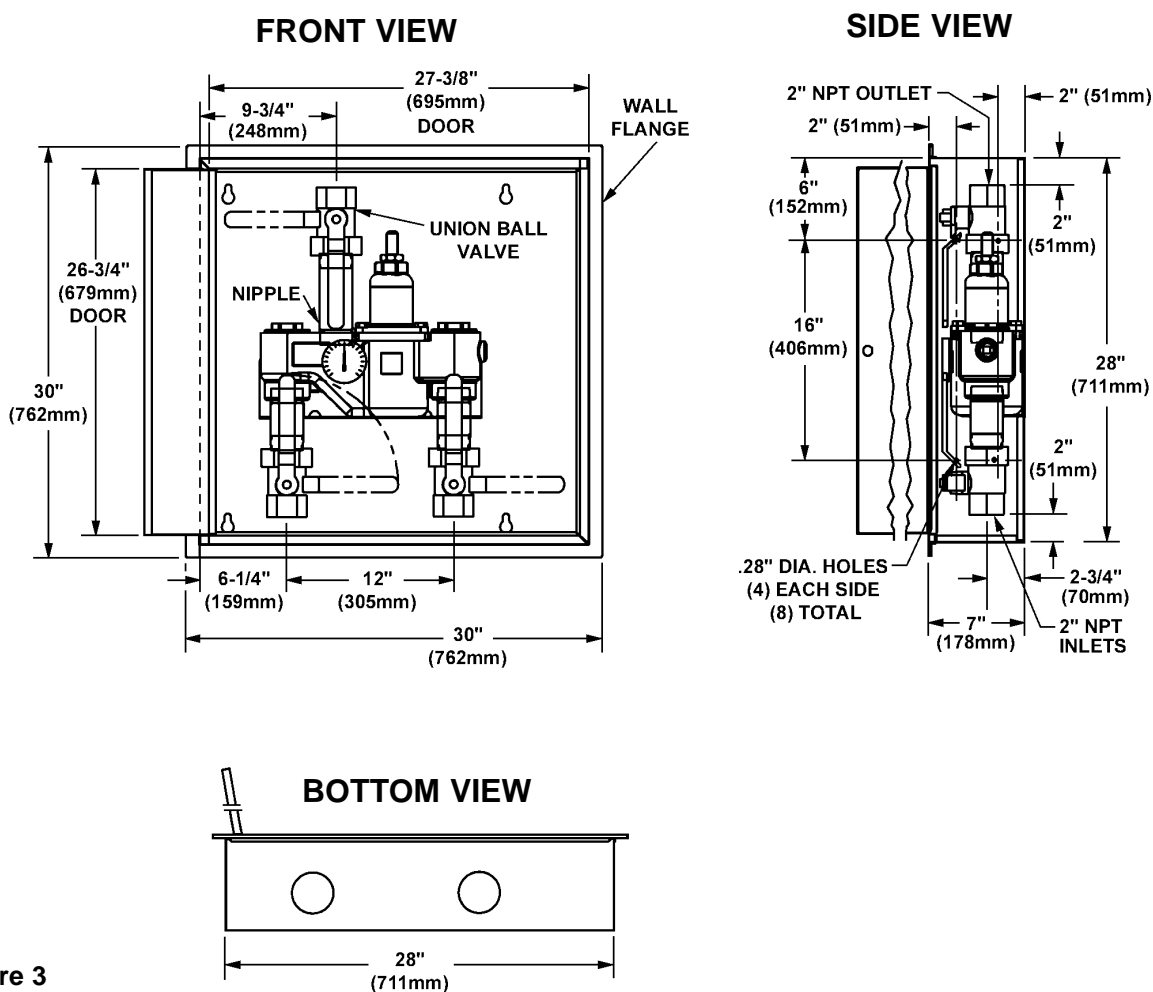

Figure 3
1. Rough in a 28-1/2" W x 28-1/2" H hole in the wall for the cabinet (see Figure 3).
2. Measure and mark the cabinet mounting hole locations at the dimensions shown in Figure 3. Install four 1/4" wall anchors, if required (anchors supplied by installer).